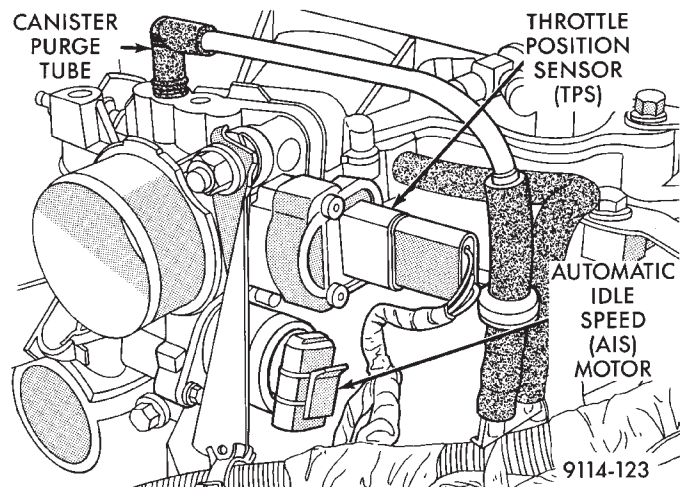

Fig. 10 Throttle Body Electrical and Vacuum Hose Connections
(16) Check hose connections at throttle body (Fig. 10).
(17) Check throttle body electrical connections (Fig. 10).